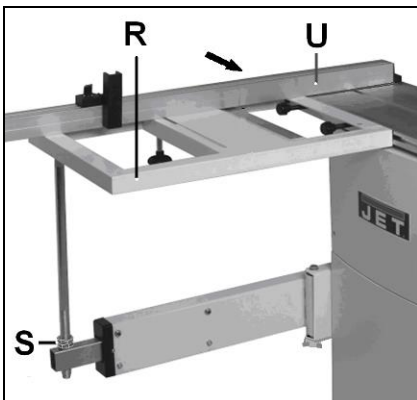

Fig 21
Lift the crosscut table (R, Fig 21) onto telescopic arm and slide onto sliding table T-groove and lock in place).
Finish alignment by setting crosscut table and machine table in level with nuts (S). Lock the nuts (S, Fig 21) against each other.
The 90° adjustable stops (R, Fig 21) are factory set.